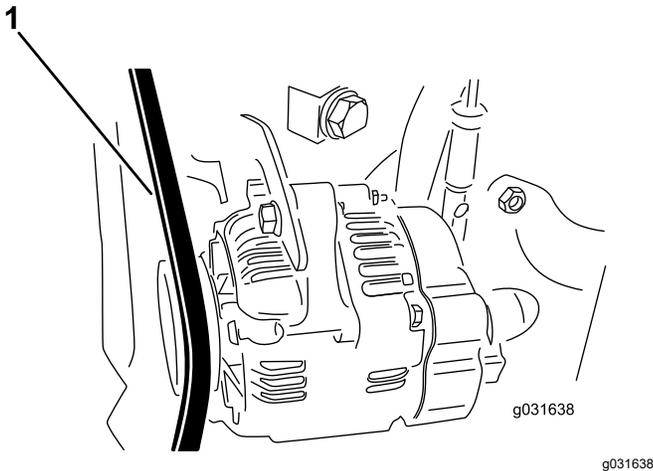

Figure 78
4. Apply 30 N (22 in-lb) of force to the alternator belt, midway between the pulleys (Figure 78).